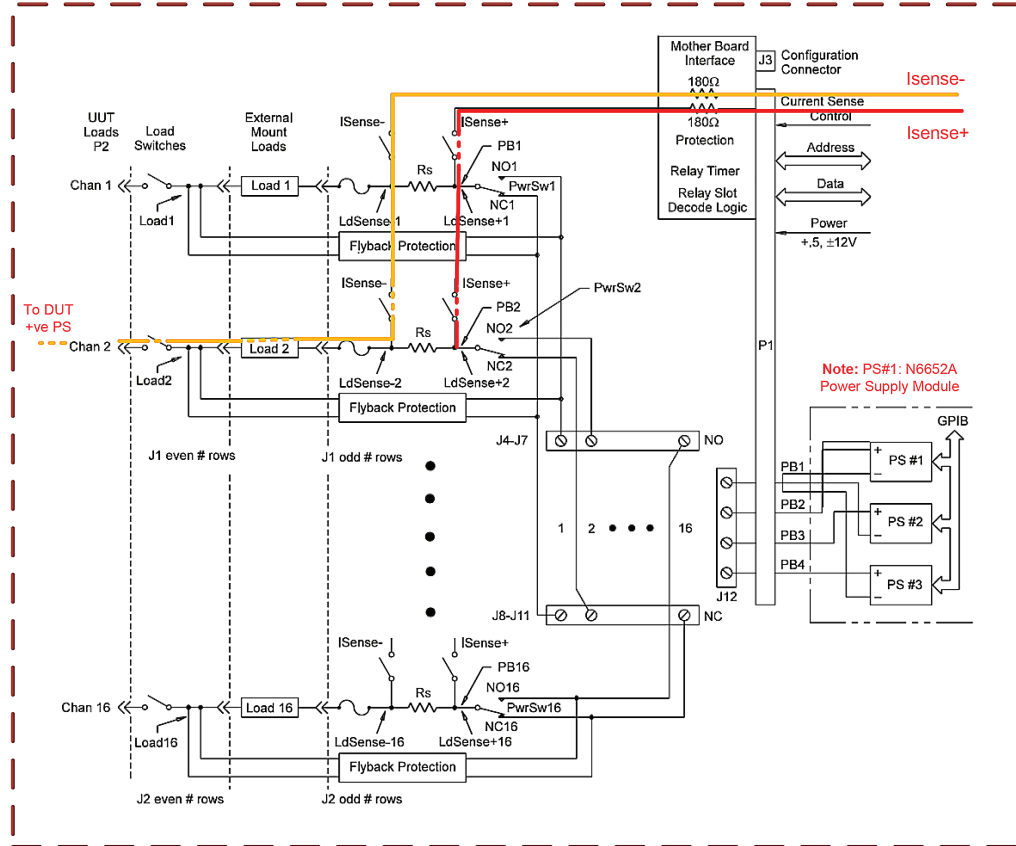

Figure 8: Switching path for DMM voltage measurement to measure current across PIN 2 of the DUT
3. Measures the current across PIN 2 of DUT connected to channel 2 of the E6176A load card (Figure 8)